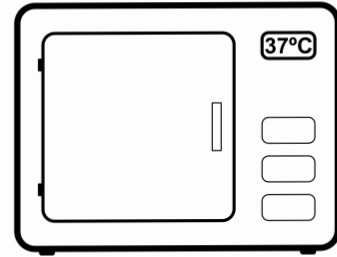

Figure 4. Incubate the prepared device at 37°C for 30 minutes.
7. Incubate the prepared device at 37°C for 30 minutes. If you are using HEPES buffered media you don't need CO2 incubator. If you use bicarbonate buffered media, you have to use 5% CO2 incubator. (Figure 4).